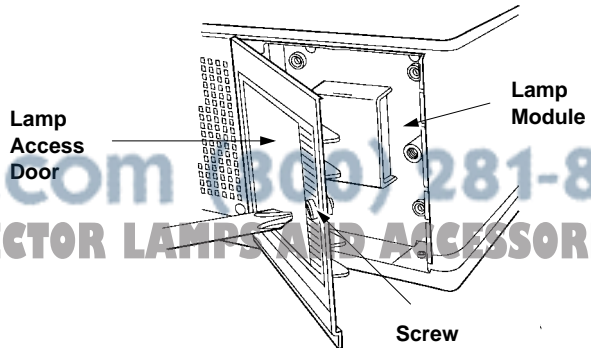

Figure 6-1. Lamp Access Door
**Remove Lamp Access Door:** The lamp access door is located on the back of the machine on the right side (Figure 6-1). Use a phillips screwdriver to unscrew the lamp cover retaining screw and gently open the cover and set it aside.
Insert the hinge tabs on the left side of the lamp access door, then close and tighten the retaining screw to secure the door (Figure 6-1).